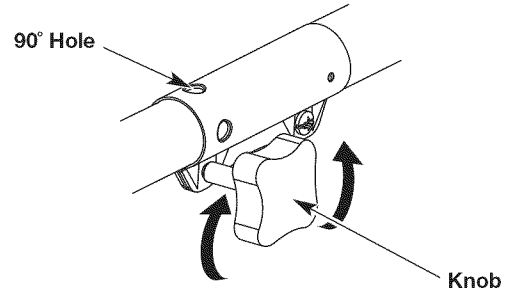
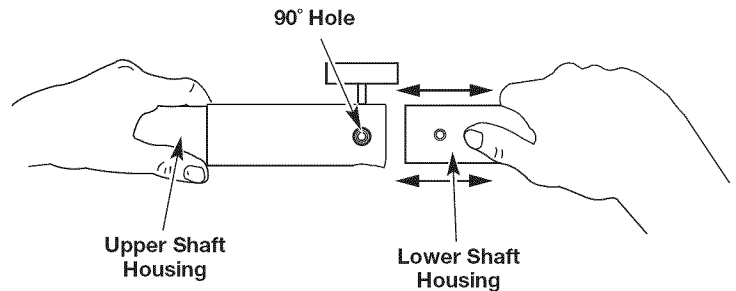

Fig. 1
Fig. 3
1. Turn the knob counterclockwise to loosen (Fig. 1).
2. While firmly holding the attachment, push it straight into the coupler until the release button snaps firmly into the 90° hole (Fig. 3).
3. Turn the knob clockwise to tighten (Fig. 1).
CAUTION: Before operating this unit, be sure that the release button is fully snapped into the 90° hole (Fig. 3), and that the knob (Fig. 1) is securely tightened. Using the wrong hole could lead to personal injury or damage to the unit.
For decorative edging with the line head trimmer attachment, lock the release button of the attachment into the 90° hole (Fig. 1).
3. While firmly holding the upper shaft housing, pull the attachment straight out of the coupler (Fig. 3).